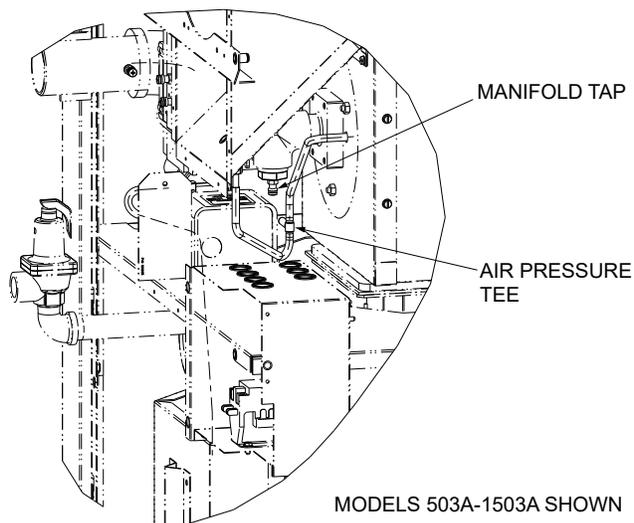

Figure 42. Air Pressure Tee
3. Attach (1) 12" scale manometer near the fan proving switch. Pull black cap from air pressure tee as shown in **Figure 42** and connect the manometer. NOTE: Retain caps for reinstallation later.
1. Check blower suction using the manometer attached to the air pressure tee as shown in **Figure 42**, with the heater firing at 100% input. The reading should be as noted in **Table R** for both natural and propane gas.